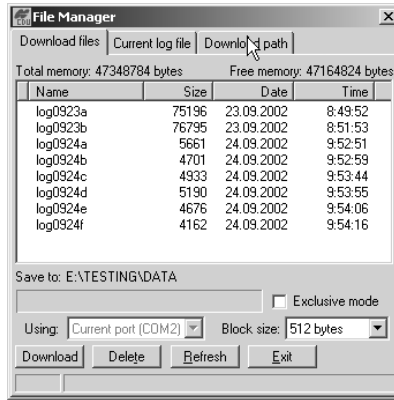

Figure 4-3. Find Files to Download
3. Click **File** ► **File Manager**, then click the **Download path** tab on the *File Manager* dialog box (Figure 4-3).